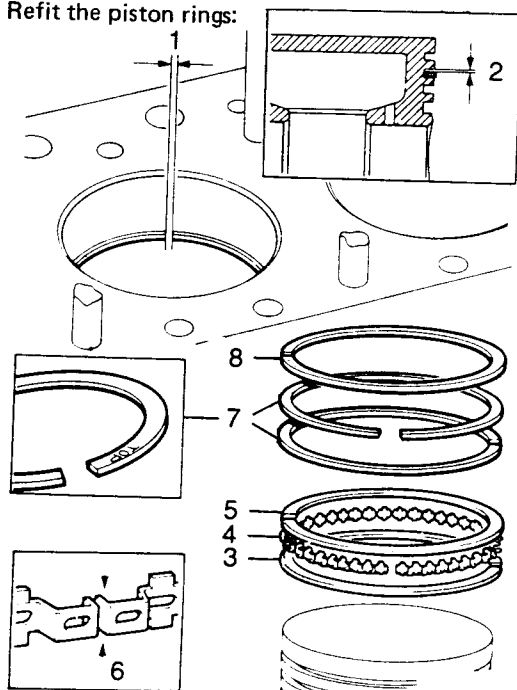

Fig B5.3
(1) Refer to Fig B5.3. Check the piston ring gap in the cylinder bore (1). To be 0,203 to 0,43 mm.
(2) Check the ring to groove clearance (2). To be 0,038 mm.
(3) Fit the bottom rail (3) to the oil control ring to the piston, and position it below the bottom groove.
(4) Fit the oil control expander (4) into the bottom groove.
(5) Move the bottom oil control ring into the bottom groove.
(6) Fit the top control ring rail (5) into the bottom groove.
(7) Check that the ends of the expanders are butting (6) but not overlapping and set the gaps of the rails and expander at 90 degrees to each other.
(8) Fit the tapered compression ring (7) with the face marked 'Top' towards the top of the piston; these rings are thinner than the top compression ring.
(9) Fit the plain compression ring (8) to the top groove.
(10) Position the ring gaps at 90 degrees to each other and away from the thrust side of the piston.